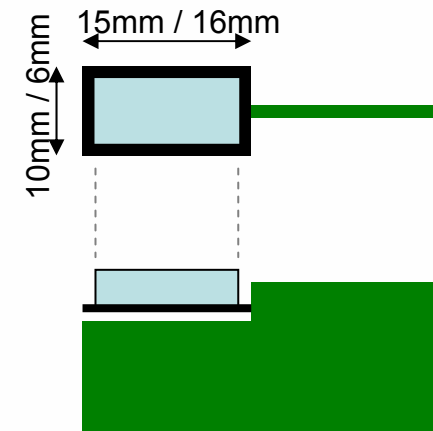

Fig.2
- **Probe-Feed LP Patch (Fig.2)**